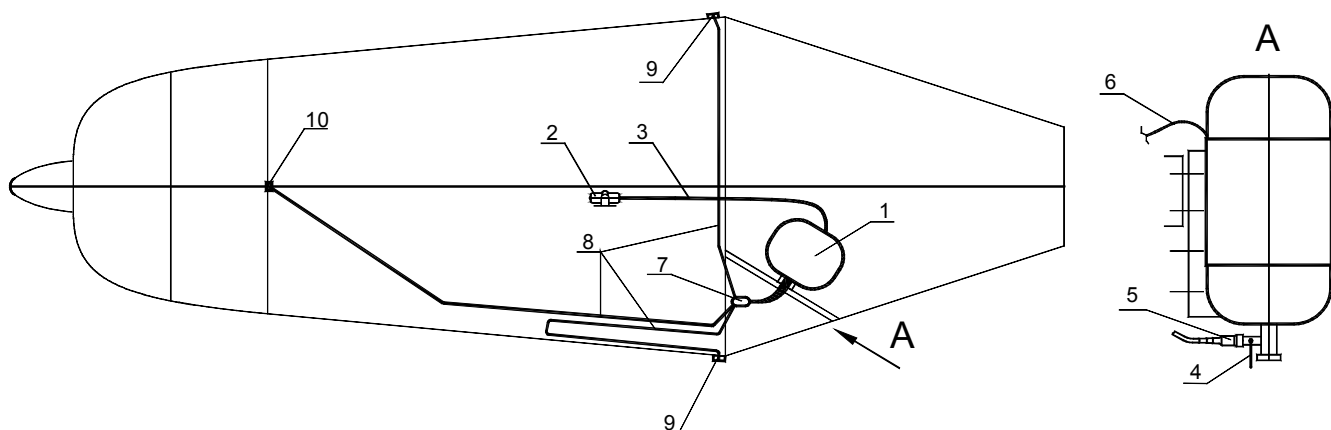

fig. 17. Installation of recovery system.
The system (1) is installed behind the pilot seats and is fastened to a special beam with bolts. The parachute strap (6) is connected to three steel cables (8) two of which are attached at their other ends to the fuselage structure near the wing attachment points (9), and the third is attached to the firewall near the upper attachment point of the nose LG strut (10) (fig. 17).